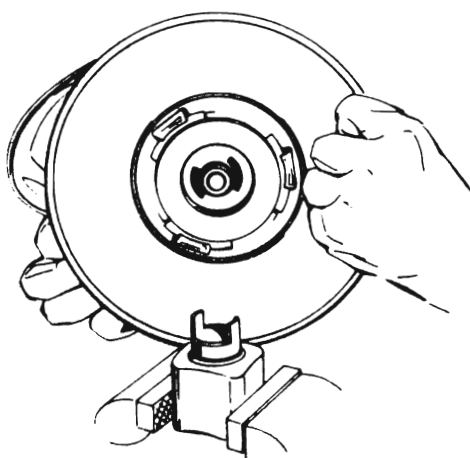

Figure 50-59 Positioning Secondary Power Piston In Tool J-23101 (Large Dia. End Up) Mounted In Vise
3. Mount double-ended tool J-23101 (with large diameter end up) in a vise. Position the secondary power piston so that the two radial slots in the piston fit over the ears (tang) of the tool. See Figure 50-59.